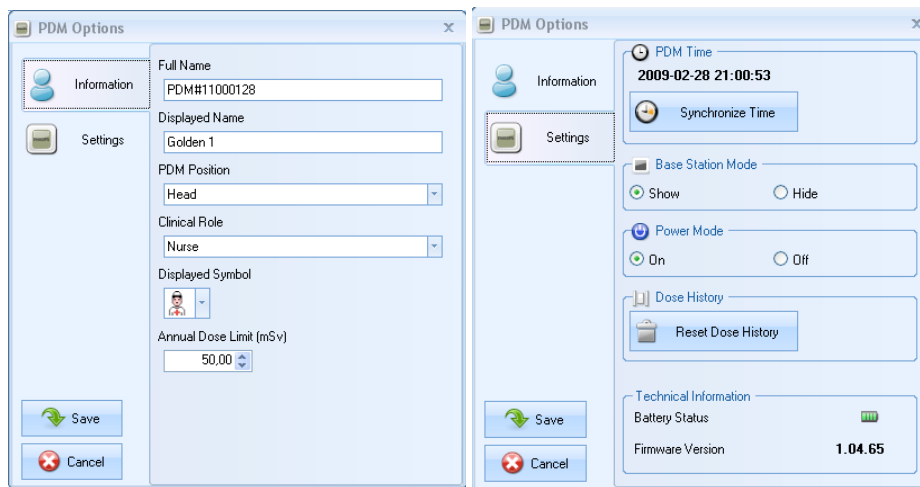

Figure 16 PDM Options dialog box
3. Access the PDM options dialog by clicking the PDM options (see Figure 16). The PDM options dialog consists of two tabs, see below.